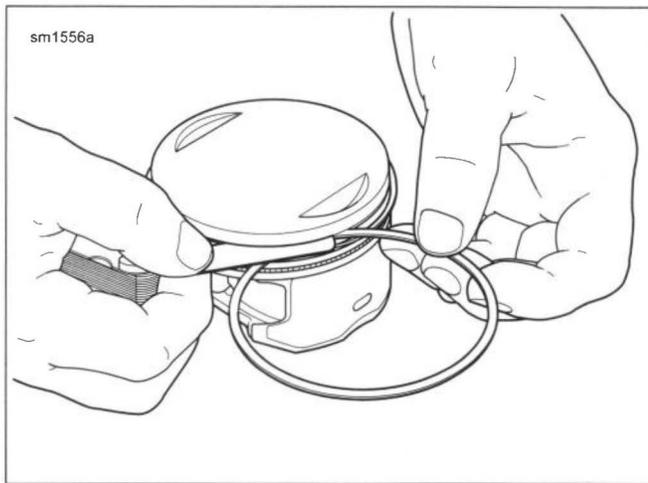

Figure 4-59. Measuring Ring Clearance in Groove
4. See Figure 4-59. Measure piston ring side clearance.